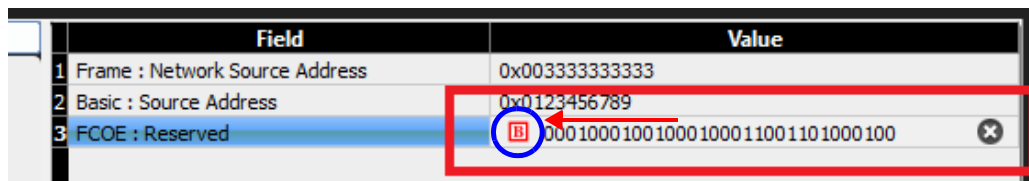

Figure 7.17: Binary Button
- You can switch between binary and hexadecimal by simply clicking on the red H; it changes to a red "B" for binary. (See Figure 7.17.)